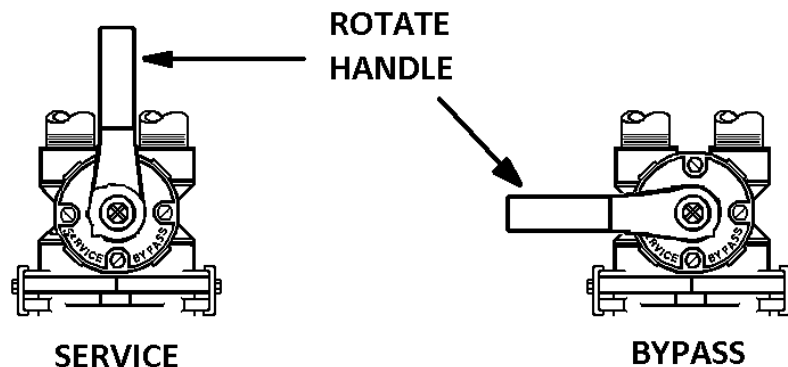

FIGURE 4: Stainless Steel Bypass Valve Operation
- STEP 9:** Place bypass valve in the "Bypass" position (refer to Figure 4 below). Open main supply valve or turn on power to pump on private well systems.
- STEP 11:** Refer to Figure 4 (page 5) for appropriate bypass valve operation. Rotate bypass lever of stainless steel bypass $\frac{1}{4}$ of the way to Service allowing unit to fill slowly. Filling the mineral tank in this position will force any trapped air to the drain. When only water flows to the drain; slowly open the bypass valve to the “Service” position, pausing briefly if more air is expelled.